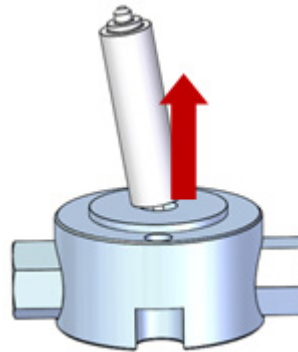

Figure 5-12 Removing the seals
11. Insert the flanged end of the seal insertion/removal tool into the seal cavity on the pump head. Tilt it slightly so that the flange is under the seal, and pull out the seal (Figure 5-12).